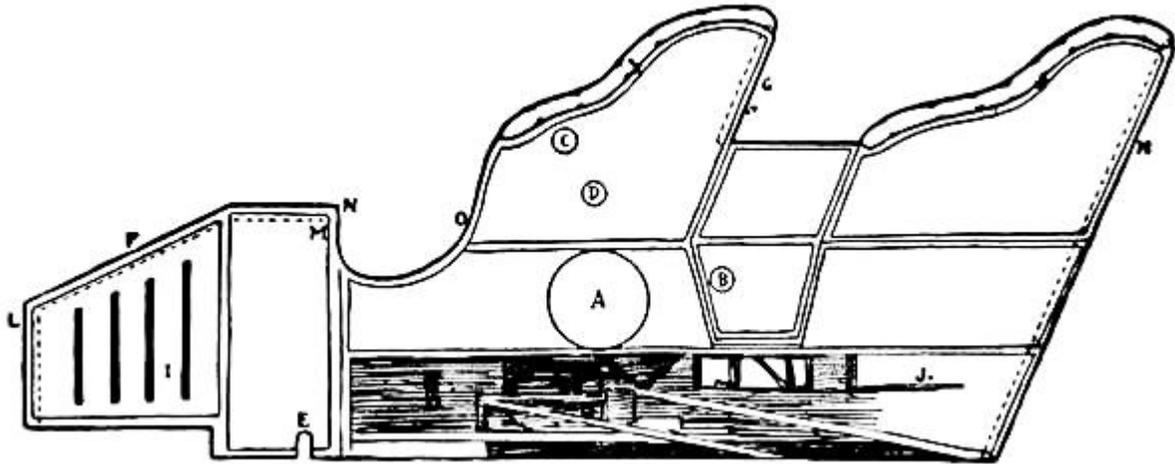
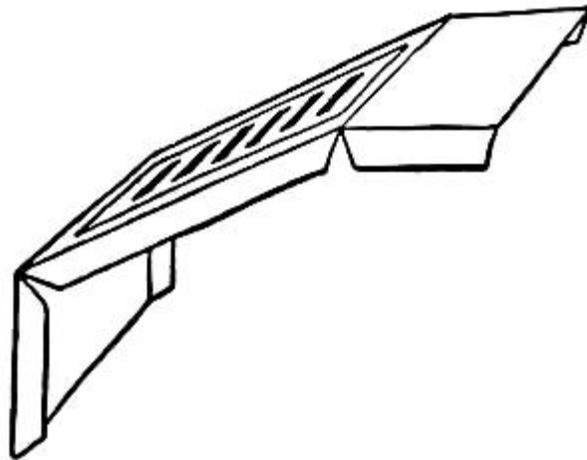
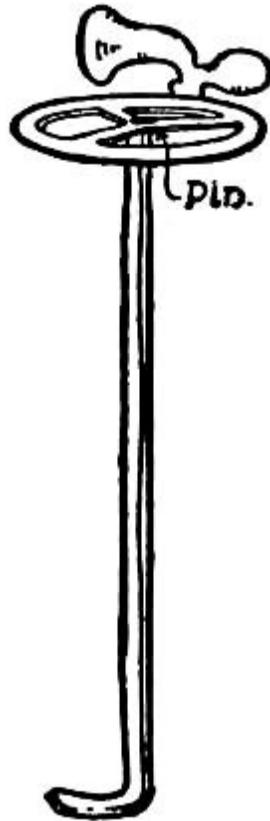

FIG. 387.—Cardboard Side of Automobile.
FIG. 388.
FIG. 389.—The Steering-wheel.
First prepare the two sides, cutting them out by the pattern of Fig. 378. Then glue the bottom edge of each side to the edge of the wooden frame, cutting holes in the left side for the belt-wheels and projecting posts to run through (see Fig. 375 and A, B, C, D, and E, Fig. 387). The top to the front of the car should now be cut as shown in Fig. 388, the distance between the sides being measured to get the piece of proper dimensions. Bend the edges as in Fig. 388, and glue them to the inner surfaces of the side-pieces as shown by the dotted lines in Fig. 387. In the same way cut and glue a piece of cardboard between the side-pieces at G and H (Fig. 387) for the seat-backs. The bent edges of these pieces are shown by dotted lines in the illustration. Draw four
**Wheels** as shown in Fig. 379, using a compass with which to describe the circles, and cut them out with a sharp knife. You can cut out between the spokes, if you wish, or leave them solid. Glue the wheels to the cardboard, placing their centres about as located at *I* and *J*, Fig. 387. Four
**Lamps** like Fig. 381, and glue end *K* of two upon the front of the automobile at *L* (Fig. 387) and one of the other two upon each side at *M*. These lamps are shown in position in the illustration of the completed automobile (Fig. 375). Draw and cut
**The Steering-wheel** similarly to Fig. 382, and, after pivoting it to the end of a strip of cardboard with a pin, as shown in Fig. 389, bend the lower end and glue it to the under side of the cardboard top *F* at *N* (see Fig. 387, also Fig. 375). Make a
**Horn** like Fig. 383, and glue it to the steering-wheel as shown in Fig. 389. A strip of cardboard about the size of that used for the upright of the steering-wheel should be cut for
**The Brake**, and glued to the inside surface of the right side of the car at *O* (Fig. 387).
**Paint the Machine** to complete it. The photograph (Fig. 375) indicates the different colors used. The lamps, and top, ends, and sides of the front portion of the car should be painted the color of brass, and the rest of the sides, with the exception of a strip along the bottom and the edge of the arms, should be painted vermilion. Paint the inside of the car and the edges of the seat-arms tan color, to represent leather upholstery. With black paint, or ink, stripe off the door and trimmings upon the sides and top of the machine, as shown in Figs. 375, 387, and 388. Blacken the brake and steering-wheel and the spokes and rims of the wheels. Along the bottom of each side roughly indicate some machinery with black paint, about as it is drawn in Fig. 387.